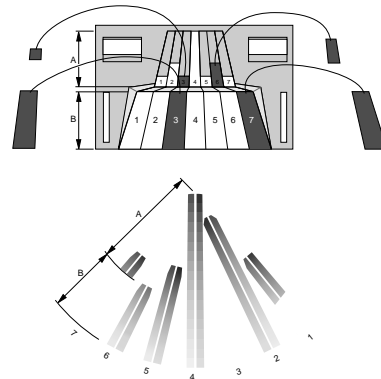

Figure 4. Adhesive labels
- Mask the appropriate mirror curtains with the adhesive labels provided. See the example shown in Figure 4. **Do not** use sharp objects to remove unwanted labels. If necessary, carefully peel the label off.